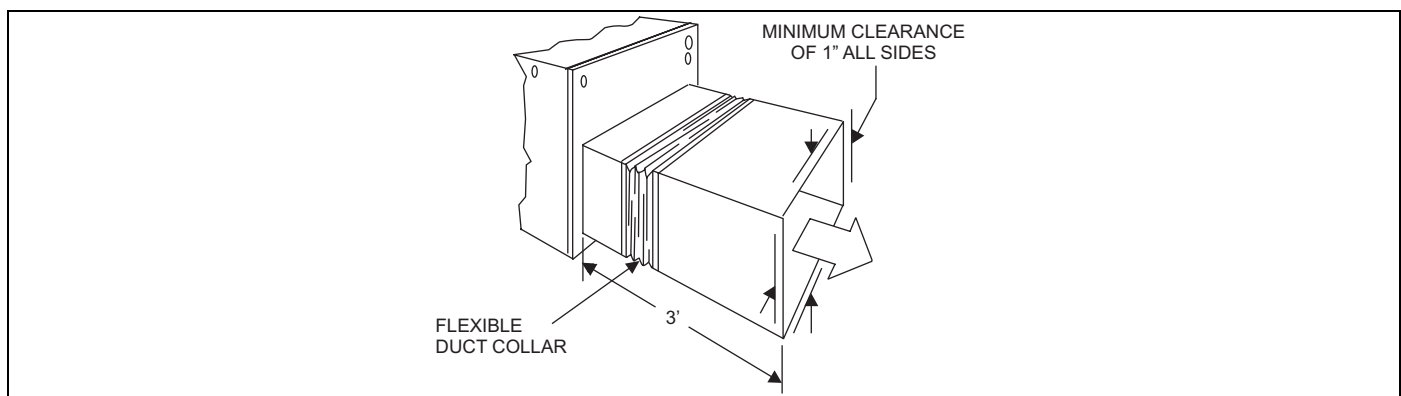

FIGURE 2: Plenum Clearances
- Refer to the unit rating plate for the air handler model number, and then see the dimensions page of this instruction for supply air plenum dimensions in Figure 2. The plenum must be installed according to the instructions.
If electric heat is used, a minimum clearance of 1" must be maintained on all sides of the supply air duct and/or plenum continuously for up to 3' (See Figure 2).